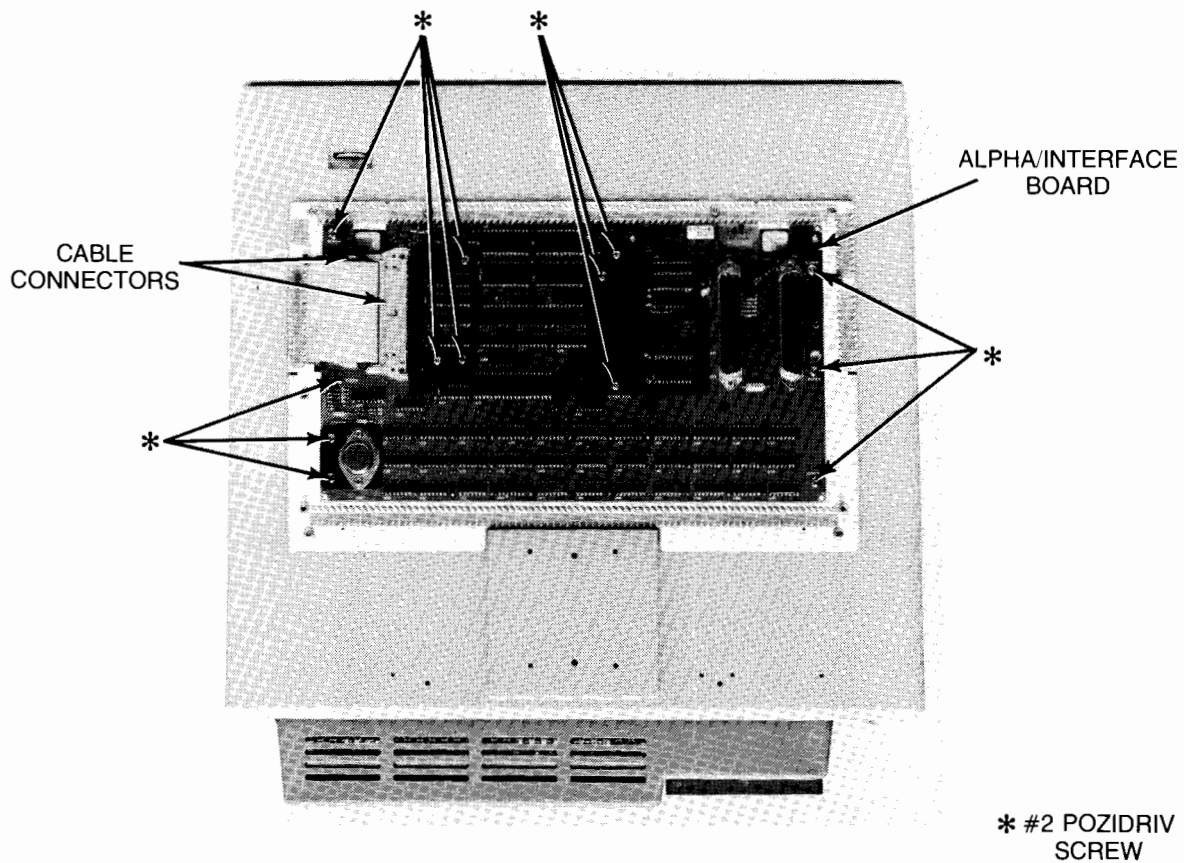

Figure 4-28. Removing Alpha/Interface Board
4. Disconnect both cables and remove 13 #2 Pozidriv screws from the alpha/interface board (Figure 4-28).